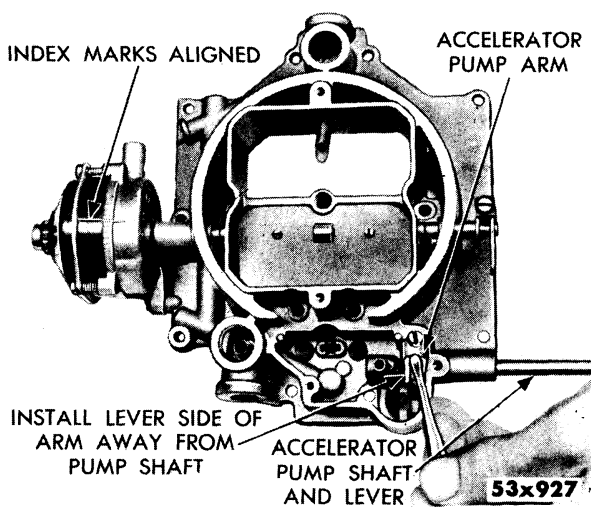
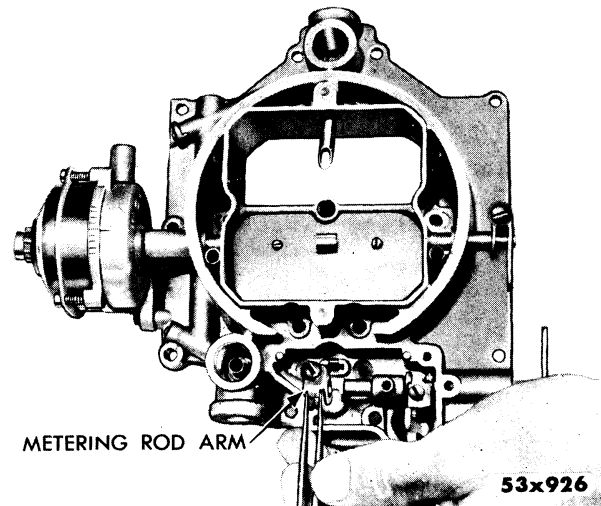

Fig. 31—Removing or Installing Accelerator Pump Arm
Fig. 32—Removing or Installing Metering Rod Arm
- (13) Tighten seats securely. Invert the air horn and install new secondary filter screen and plug. Make sure screen is firmly seated.
- (14) Slide the accelerator pump shaft and lever into the air horn, just far enough to allow the installation of the accelerator pump arm. (See Fig. 31.)
- (15) Install the pump arm with the lever portion facing away from the pump shaft. (See Fig. 31).
- (16) Continue to slide the pump shaft into air horn until shaft protrudes from the support boss.
- (17) Now install the metering rod arm. (See Fig. 32.) The lifter portion must be aligned with the vacuum piston link slot in the air horn casting.